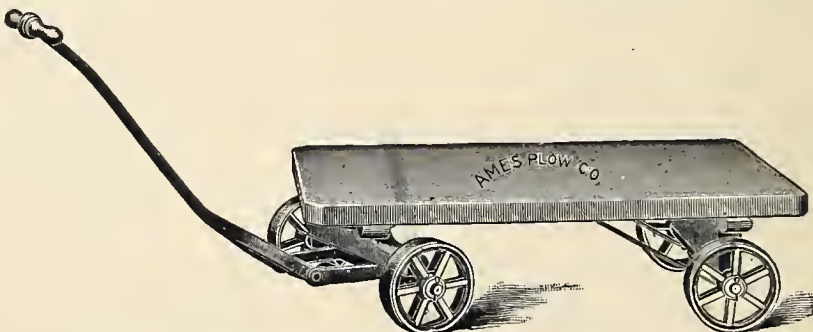

Fig. 510. — Platform-Truck.
*The Platform-Truck*, represented by *Fig. 510*, is used for bulky merchandise, boxes of heavy weight, sheet iron, lead, and other metals; also for sides of leather, etc. We manufacture seven sizes.